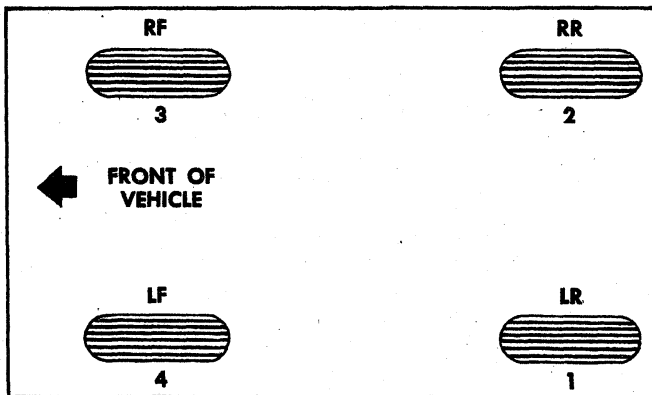

Fig. 5—Correct Bleeding Sequence
The hydraulic brake system must be bled whenever any line has been disconnected or air has in some way entered the system. A "spongy" pedal feeling when the brakes are applied may indicate presence of air in the system. The system must be absolutely free of air at all times. Bleeding should be done on the longest line first; the proper sequence to follow is left rear, right rear, right front, and left front (fig. 5). Bleeding of brake system may be performed by one of two methods—either pressure or manual.
9. Repeat Steps 4 through 8 on the remaining wheel cylinders in the correct bleeding sequence (fig. 5).
7. Repeat Steps 2 through 7 on the remaining wheel cylinders in the correct bleeding sequence (fig. 5).